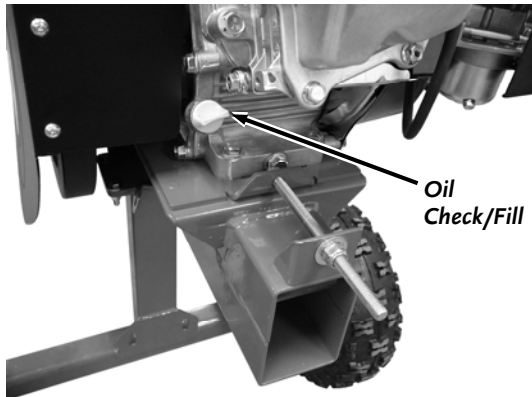

Figure 21
- Remove the Oil Fill/Dipstick (**Figure 21**).